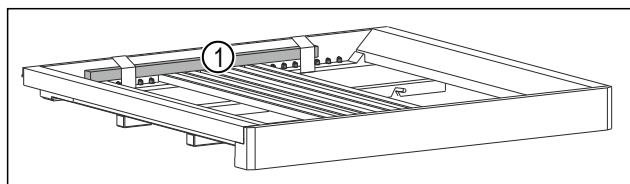

Fig. 7\*
- ▶ Remove the wooden stick Fig. 7 (1).\*